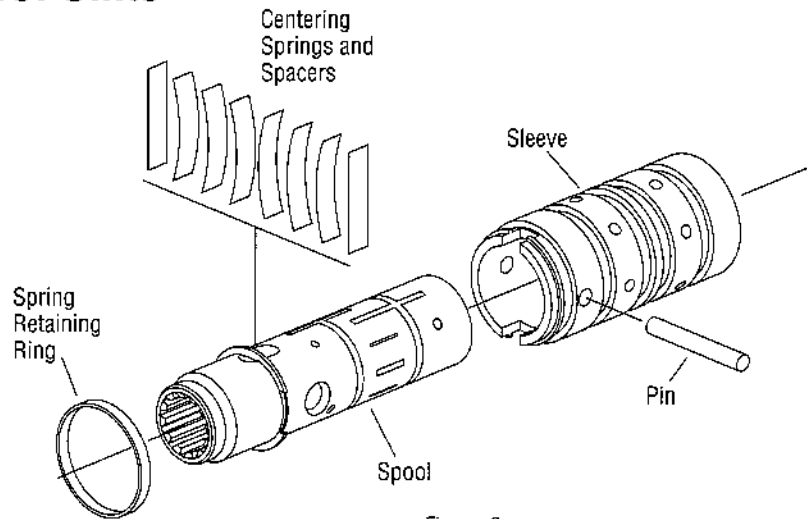

Figure 3
7 Remove the pin that holds the spool and sleeve together, see figure 3.
- 15 Install the pin, see figure 3.